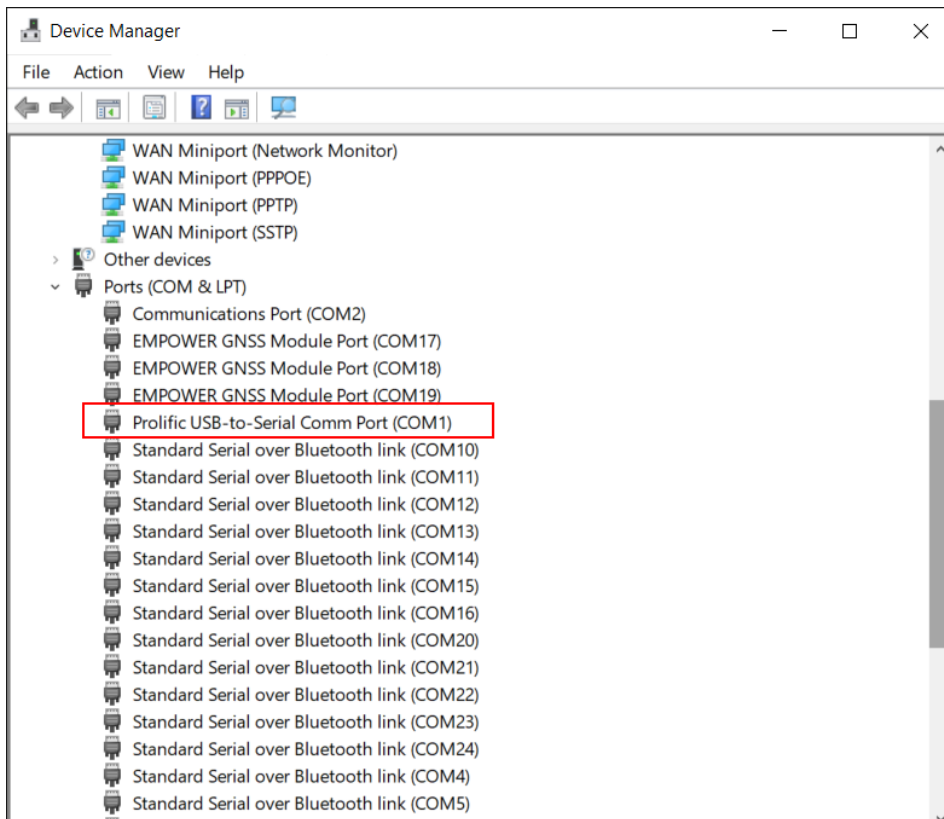
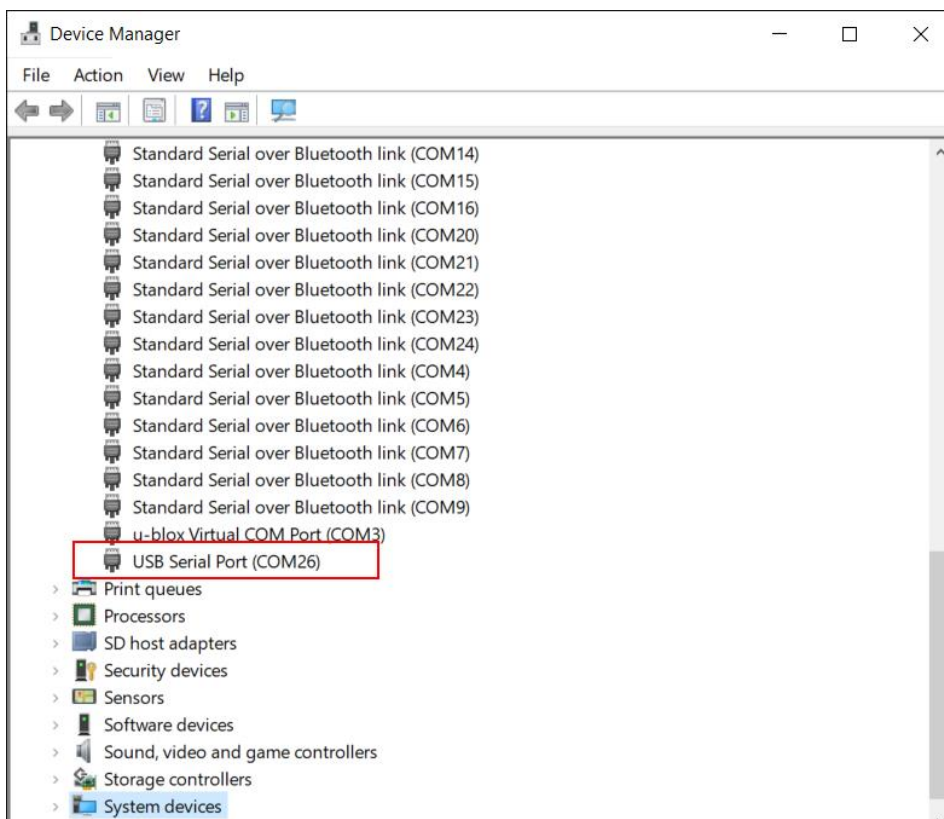

Figure 5 - Windows Device Manager (TSC7 RS-232 COM port highlighted).
Figure 6 - Windows Device Manager ("Smart" USB cable highlighted).
The CEE-LINE communicates with the TSC7 via one of its COM (serial) ports. As with any Windows computer, the full list of available COM ports can be seen using the Windows Device Manager program (example displays are shown in Figure 5 and Figure 6).
- The DB9 RS-232 port on the TSC7 is **always COM1** (see Figure 5),
- If the “Smart” USB cable is plugged in then it will generate an **arbitrary COM port number**, e.g. COM26 is shown in Figure 6. This number will always be the same every time the CEE-LINE is connected using the same cable. Switching to a different “Smart” USB cable will generate a new COM port number for the same CEE LINE device. When the “Smart” USB cable is unplugged, the COM port will disappear.